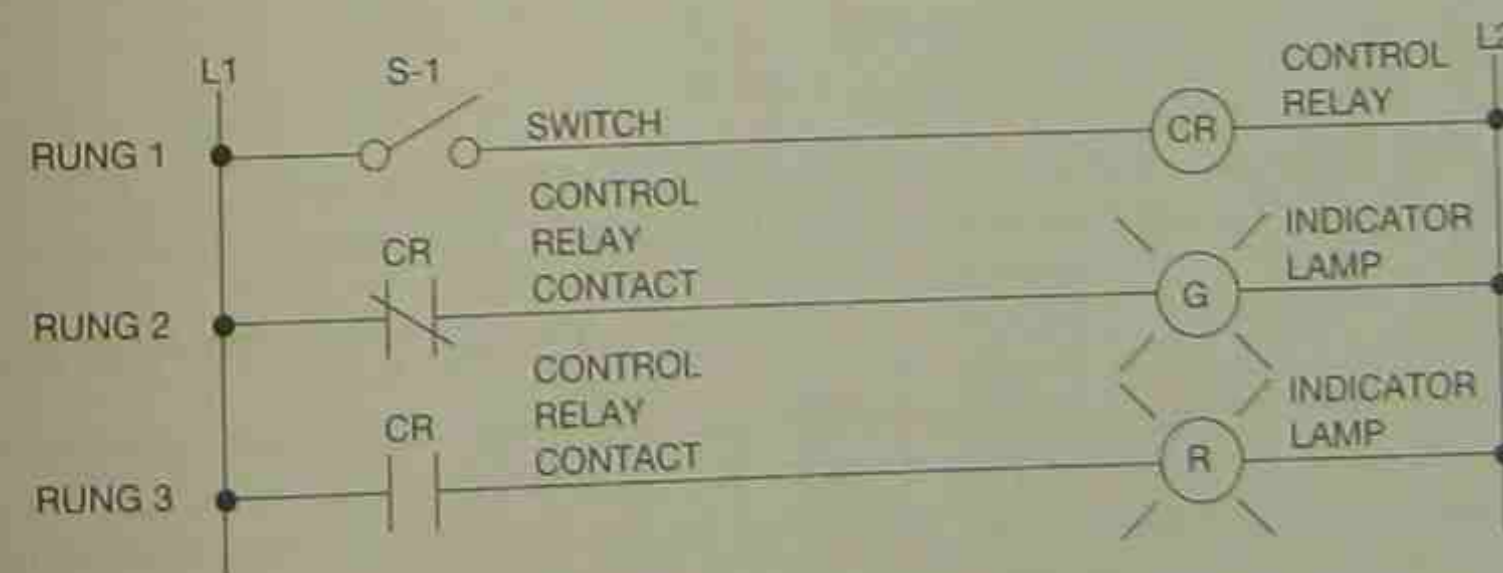

Figure 7-4 Three Rung Ladder Diagram
Figure 7-4 shows a control relay (CR) controlled by a switch (S-1) on Rung 1 of the ladder diagram. Rung 2 shows a normally closed (N.C.) control relay contact in series with a green indicator lamp. Rung 3 shows a normally open (N.O.) control relay contact in series with a red indicator light.
The NOT gate functions like the normally closed contacts in Rung 2 for the three-rung ladder diagram in Figure 7-4. As long as the control relay (CR) in Rung 1 remains deenergized, or OFF, the normally closed CR contact in Rung 2, that controls the green indicator lamp, will be TRUE and the indicator lamp will be ON. Figure 7-18 shows a normally closed CR contact controlling a lamp and the truth table for the circuit.